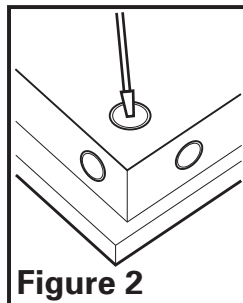

Figure 2
4. Select the most convenient electrical knockout and remove using a straight-blade screw driver (Figure 2).